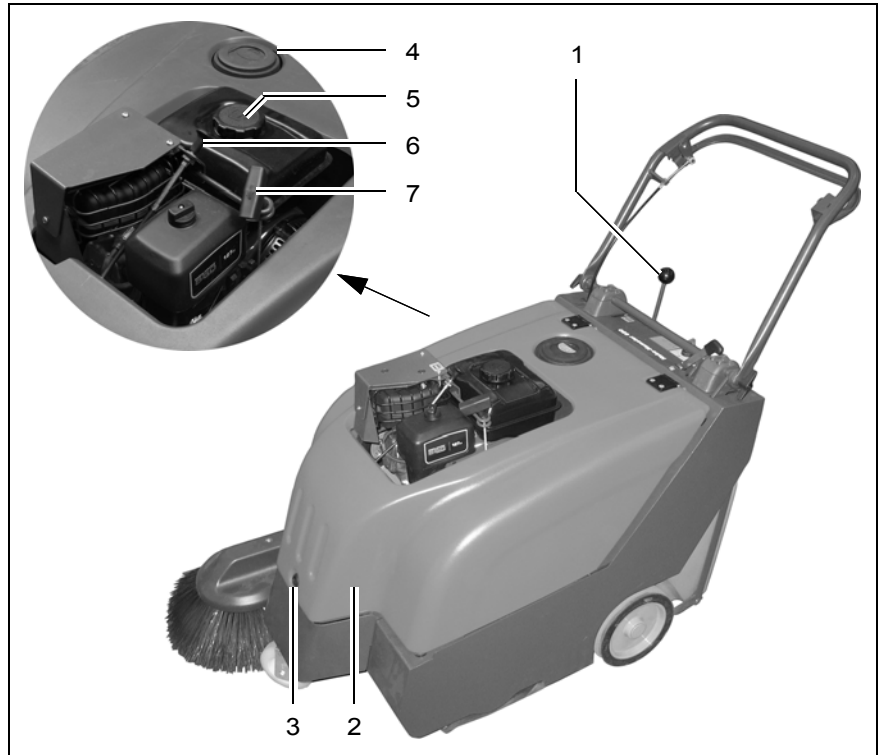

Fig. 7
Unscrew the fuel tank cap (Fig. 7/5) and fill approx. 2.5 l gasoline. Screw the fuel tank cap back on.
Side brush lever (Fig. 7/1)
(Fig. 7/2)
The hood should only be opened for maintenance and repair work. In this case, unlock the lock (Fig. 7/3) using a square wrench and pivot the hood up.
Bypass flap (Fig. 7/4)
Fuel tank cap (Fig. 7/5)
Choke (Fig. 7/6)
Recoil starter (Fig. 7/7)
2. Pull out the choke (Fig. 7/6) in the case of a cold start.
3. Pull the recoil starter cord (Fig. 7/7) until the starter clutch perceptibly
engages (slight resistance) and then pull the starter cord (Fig. 7/7) hard and fast to start the engine.
4. Release the starter cord (Fig. 7/7) and let it recoil back into the housing.
5. Then push the choke (Fig. 7/6) back in, slowly.